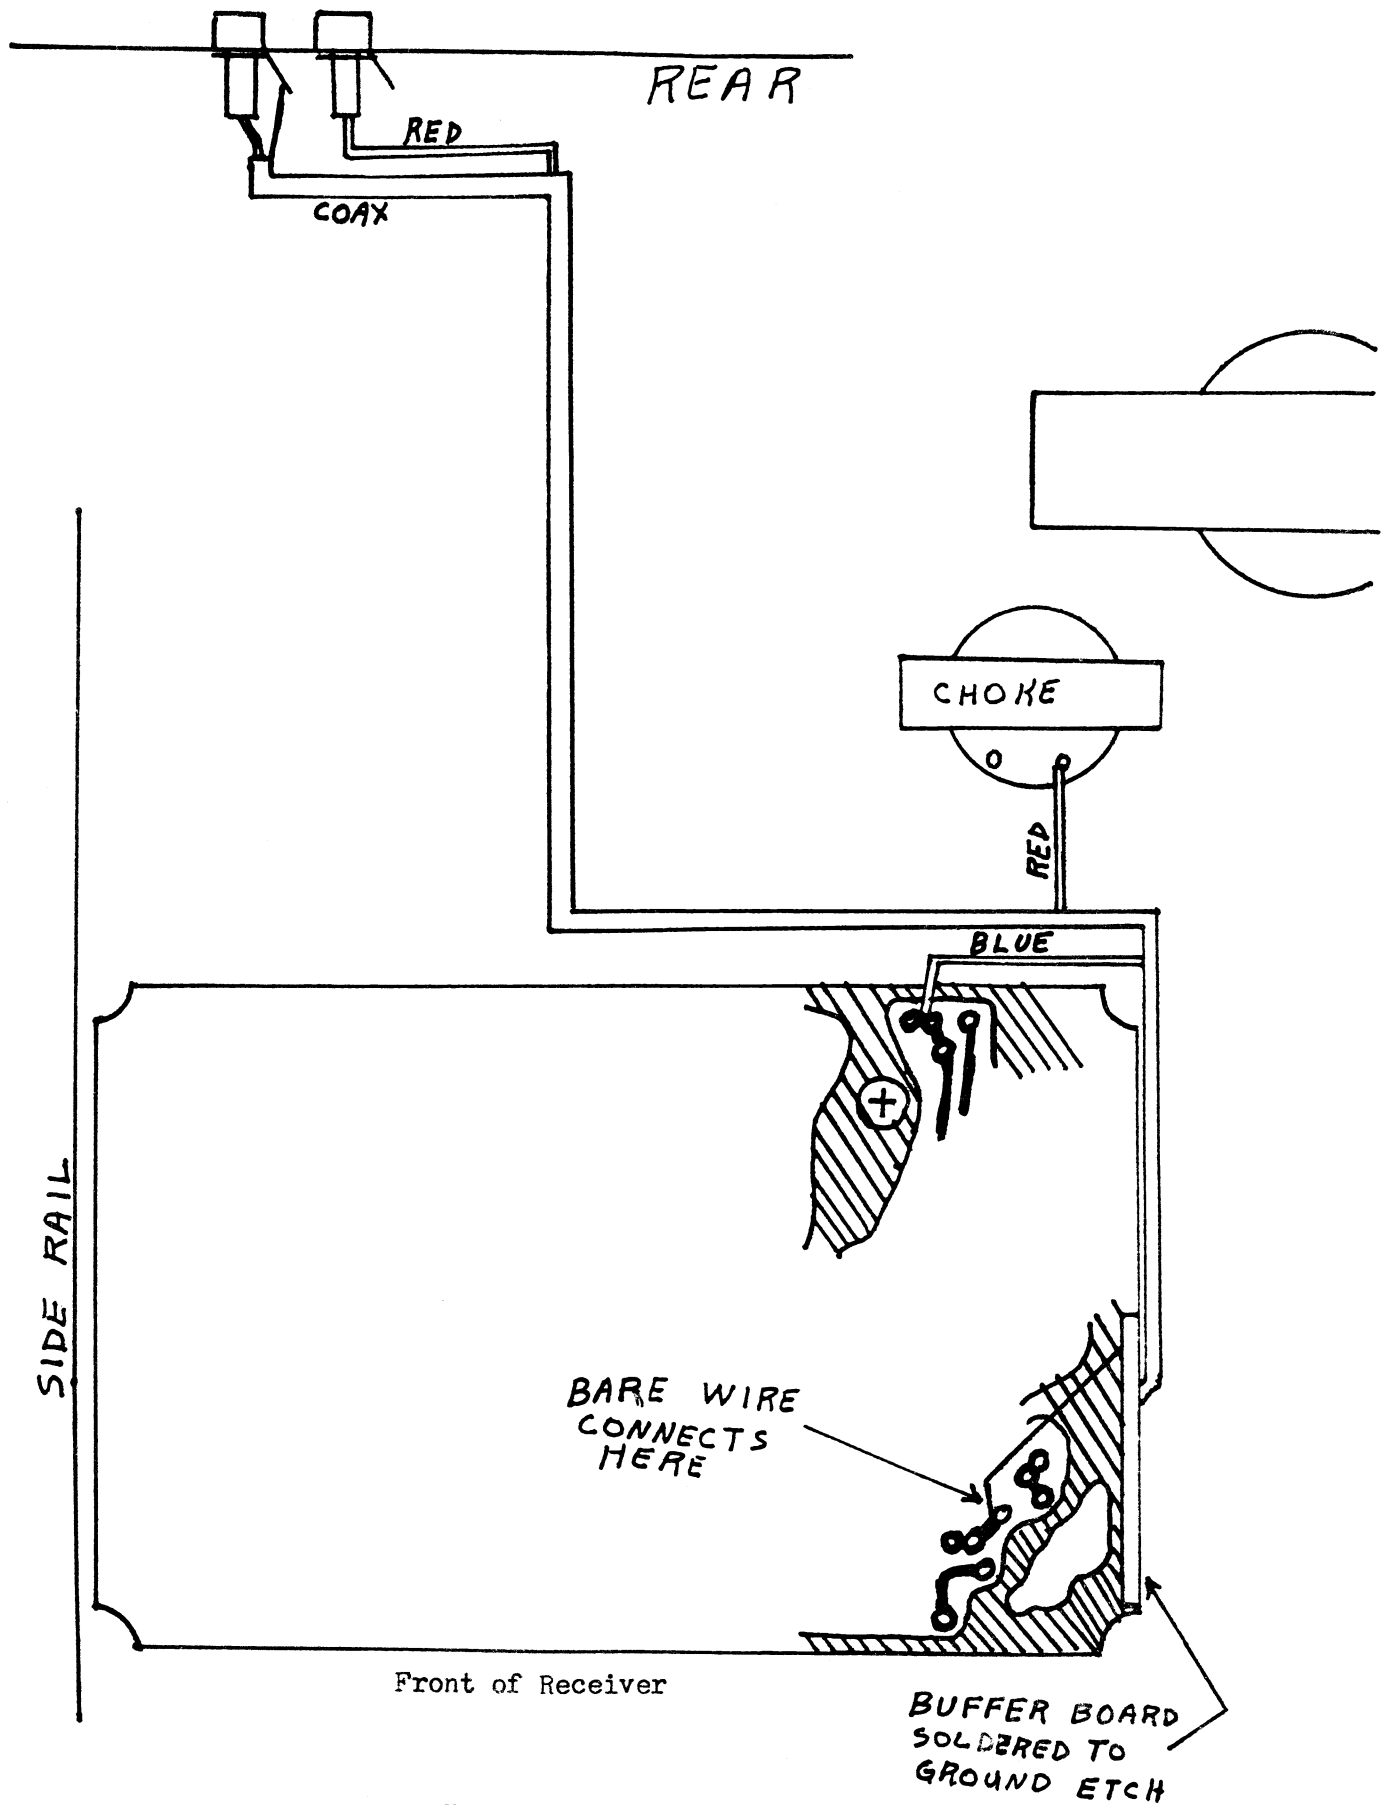

Figure 3.
11. Solder the bare wire from the etch side of the buffer board to the receiver P. C. Board etch, as shown in figure 3.